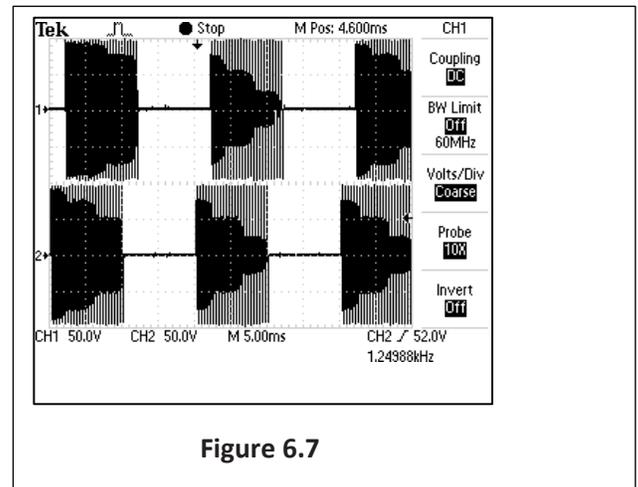

Figure 6.7
10. Compare waveform on scope to **Figure 6.7**.
1. Waveform is the same between scope and **Figure 6.7** and amplitude reached 100 voltspeak.